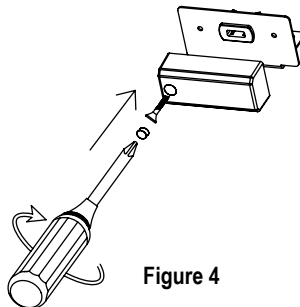

Figure 4
2. Remove the rubber plug from the USB-C receptacle. Insert the sensor into the receptacle. Lock the sensor in place with the included hex screw and rubber plug. (see Fig. 4)